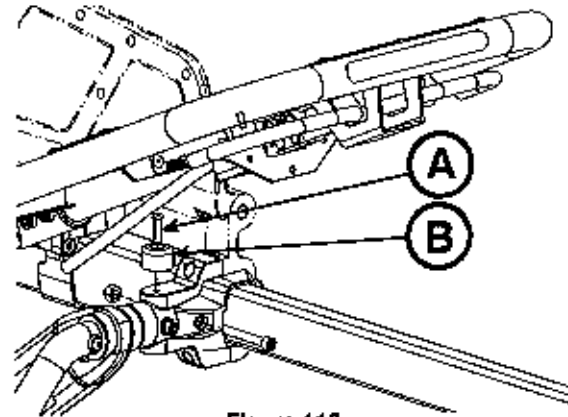

Figure 118
3. Using a T25 Torx driver, remove the button head cap screw (A) and black bumper (B) on the side where you are replacing the siderail (Figure 118). Save the screw and bumper for reinstallation.